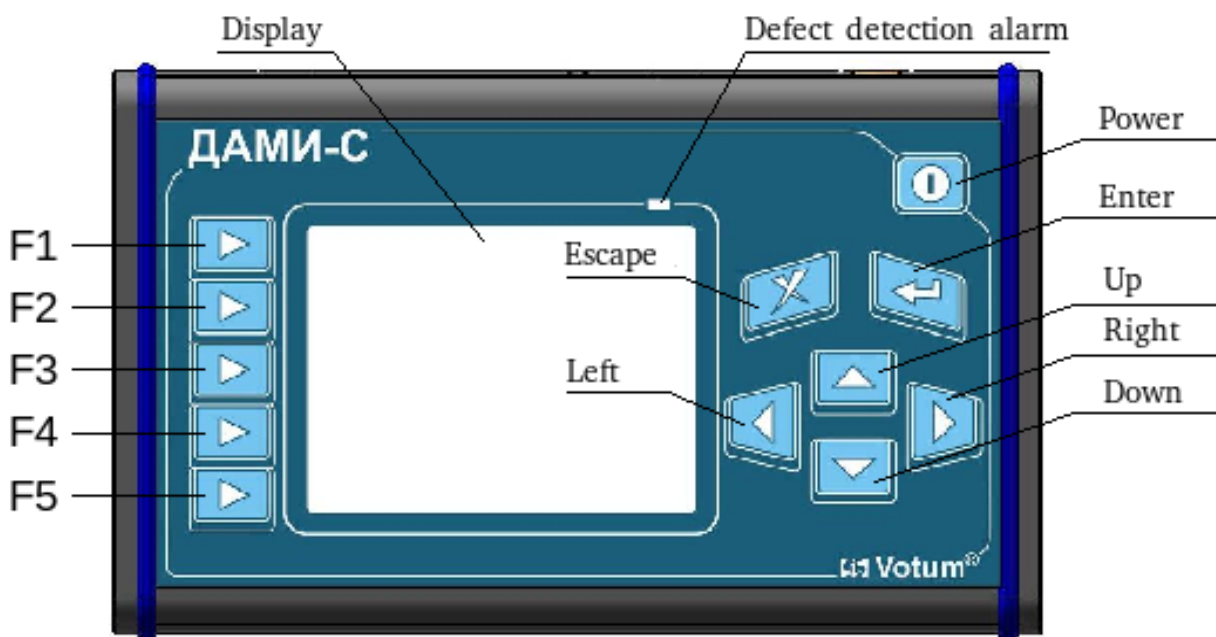
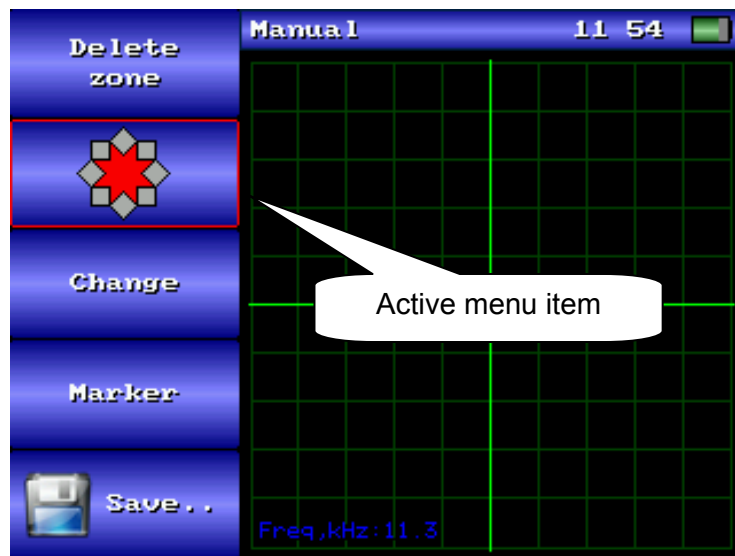

Fig. 1 Front panel.
Fig. 6 Feature menu.
**DAMI-C09 controls and indicators** are located on the front panel (Fig. 1).
6.1.1 Press the button  on the DAMI-C09 front panel (**Fig. 1**) and keep it pressed during 1 second; the red light-emitting diode will simultaneously light on the front panel. If the device is not turned on after pressing of the button (a battery is completely discharged), it is necessary to connect the power pack and press  again.
**Feature menu** is a group of control items located in the left part of the screen (Fig. 6). Each menu item has a corresponding functional button (Fig. 1).